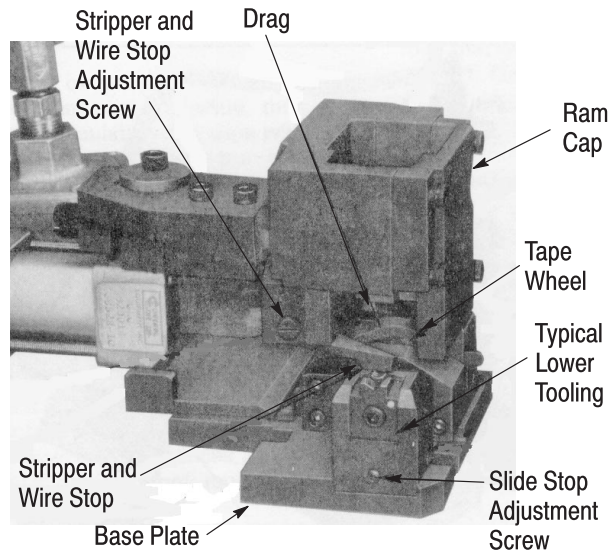

Figure 6
3. Turn the slide stop adjustment screw (Figure 6) in the direction required to move the terminal front or back.
**5.5. Stripper and Wire Stop Adjustment (Figure 6)**